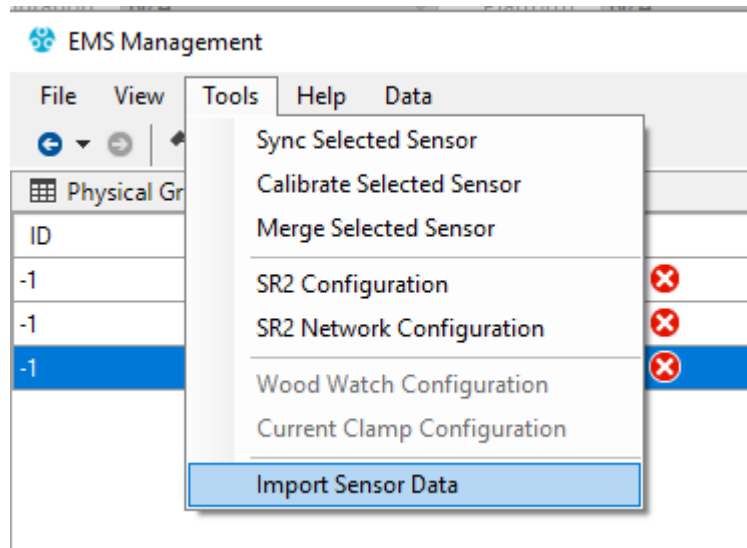

Figure 20
- ii. Select **Import Sensor Data** from the **Tools** menu. See Figure 20 below: